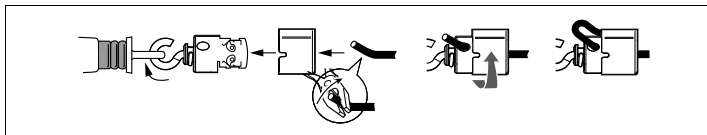

Fig. 6: Mounting the first rope clamp
- Trim the end of the rope and tuck it into the rope clamp as shown in Fig. 6.